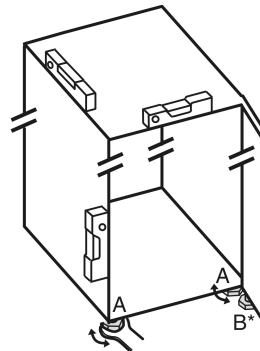

Fig. 4
- Unscrew the adjustable feet Fig. 4 (A) using the open-end wrench provided and a spirit level until the appliance is firmly aligned and level.
- Unscrew the adjustable foot Fig. 4 (B) at the swap bearing block using the open-end wrench provided until it rests on the floor.
- Turn the adjustable foot Fig. 4 (B) another 90°.